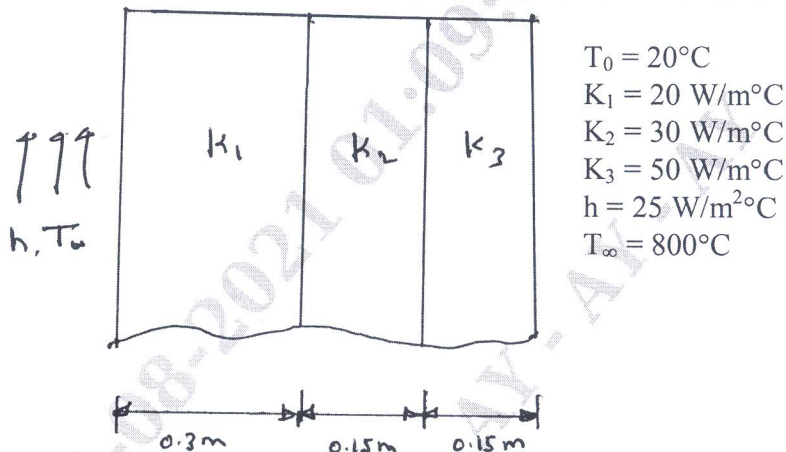

Fig.Q7(b)
b. A composite wall consists of three materials, as shown in Fig.Q7(b). The outer temperature is $T_0 = 20^\circ\text{C}$. Convection head transfer takes place on the inner surface of the wall with $T_\infty = 800^\circ\text{C}$ and $h = 25 \text{ W/m}^2$. Determine temperature distribution in the wall.